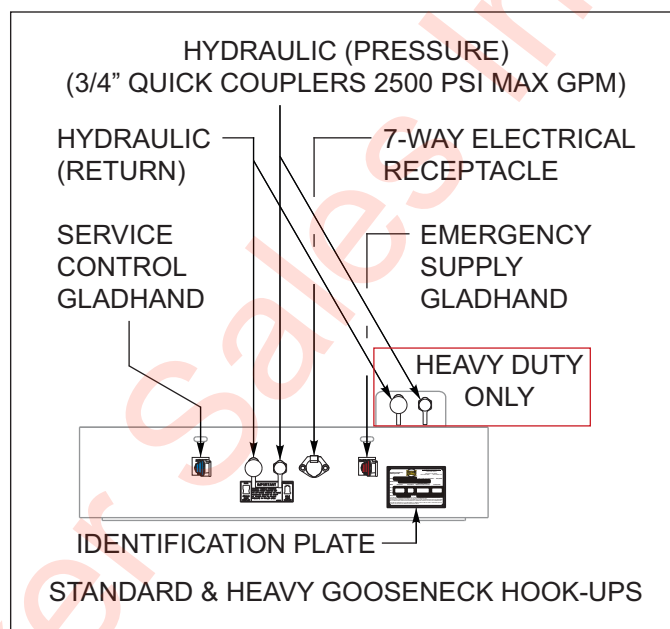

Figure 4-1: Service Hook Ups
5. Connect the tractor's 7-pole electrical plug to the electrical receptacle on the front of the gooseneck, **See Figure 4-1.**